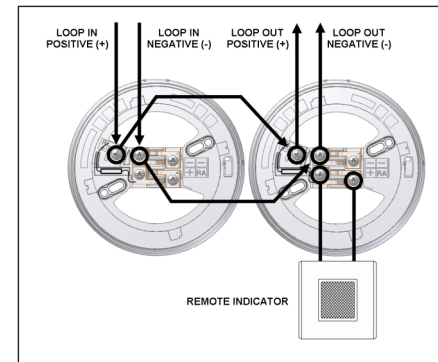

Figure 2 - adaptor base and deep adaptor base loop wiring.
**Connections to the base terminals are polarity sensitive thus please check by referring to the wiring diagram in figures 2, 3, 4 and 5!**